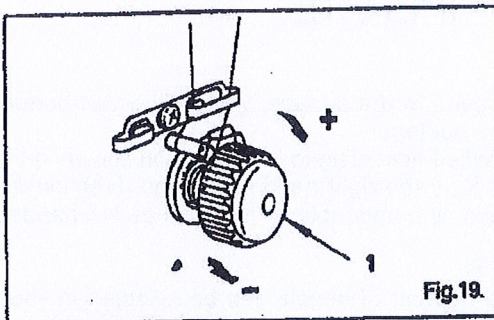

Fig.19.
Regulate needle thread tension with tension regulating knob (1), Fig.19.
Regulate bobbin thread tension with tension regulating screw (1), Fig.19.
图十九 Figure 19